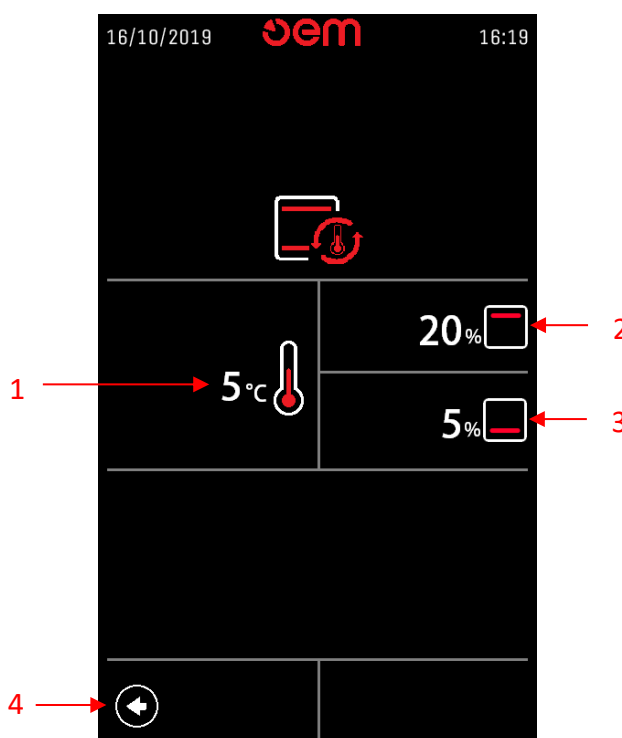

Fig.8
6.3.5 Cooking Assistant (Fig. 8)
- Press the TEMPERATURE button (Fig. 8 – Pos. 1) to set the temperature difference to which the Cooking Assistant intervenes;
- Press the button relating to the Upper Heating Elements (Fig. 8 – Pos. 2) to *increase* or *decrease* the percentage of the same when the Cooking Assistant is active;
- Press the button relating to the Lower Heating Elements (Fig. 8 – Pos. 3) to *increase* or *decrease* the percentage of the same when the Cooking Assistant is active;
Once the desired parameters have been set, press the Back button to confirm (Fig. 8 – Pos. 4).